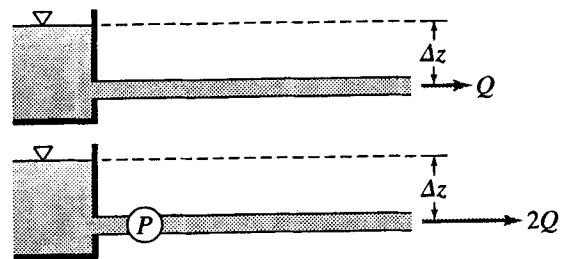

Figure X8.28.7
8.28.8 A 300-mm-diameter pipe 3400 m long ($f = 0.022$) discharges freely into the air at an elevation 5.6 m below the surface of the water at intake (Fig. X8.28.7). It is necessary to double the flow by inserting a pump. If the efficiency of the pump is 76 per cent, how much power will be required?